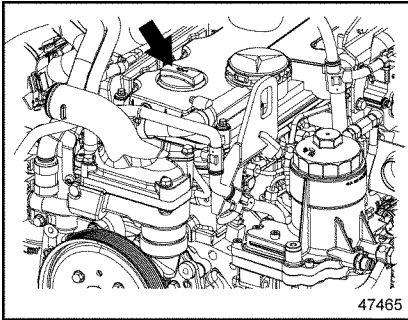

Figure 36 Oil Fill
10. Add new engine oil through the oil fill hole on the cylinder head cover. (see Figure 36).